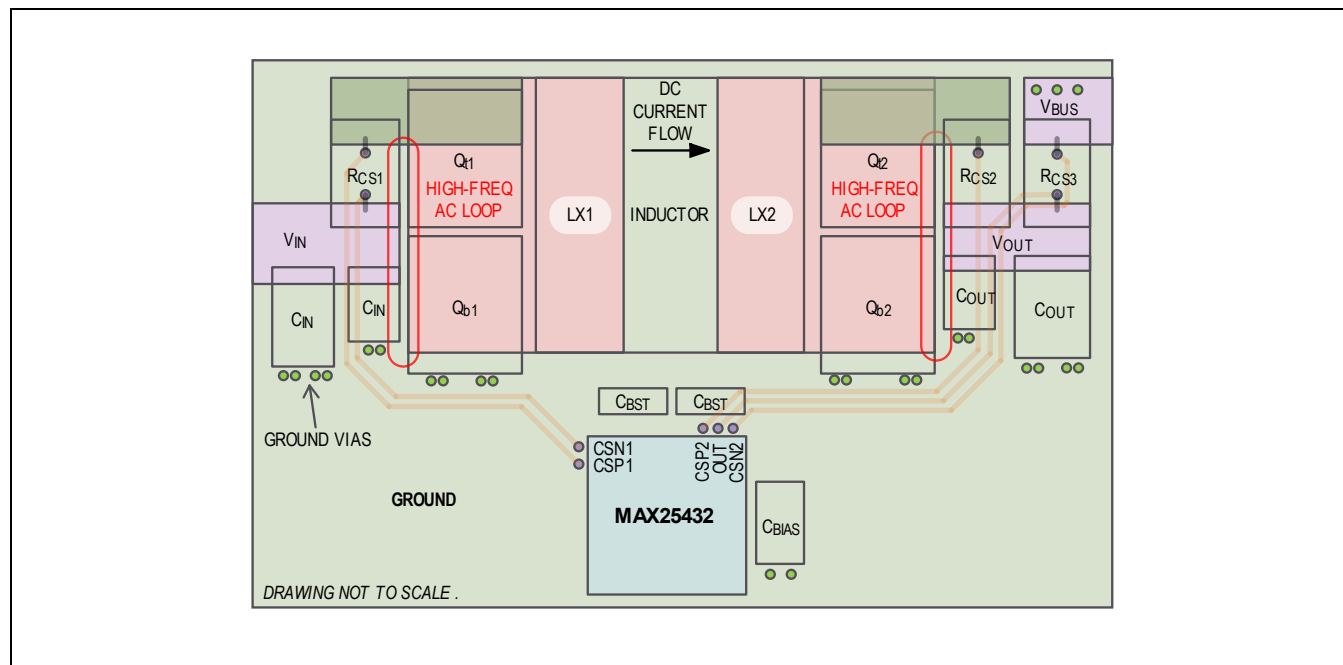

Figure 40. Recommended Buck-Boost PCB Layout
Use the following guidelines and see Figure 40 for an optimized buck-boost layout:
- Place vias as close to the AGND pins as possible to provide a low impedance path to the ground plane underneath. Figure 40 shows a recommended PCB layout for the buck-boost.